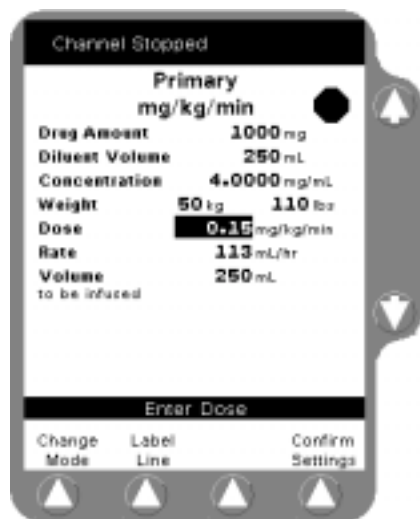

Figure 5-21 Confirm Settings
7. After completing all required entries, verify that all displayed values are appropriate and press the **Confirm Settings** soft key (Figure 5-21).